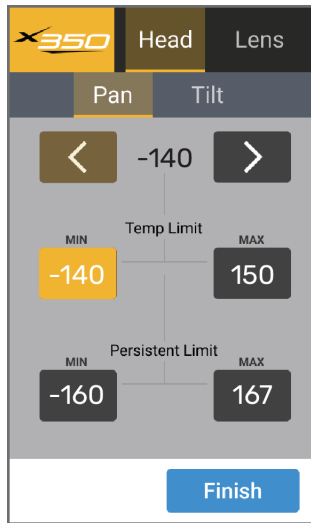

Figure 51 - The Pan Axis Reaches a Temporary Limit
3. If the axis stops moving and the arrow button you pressed is shaded yellow, the axis has reached a temporary limit (**Figure 51**).